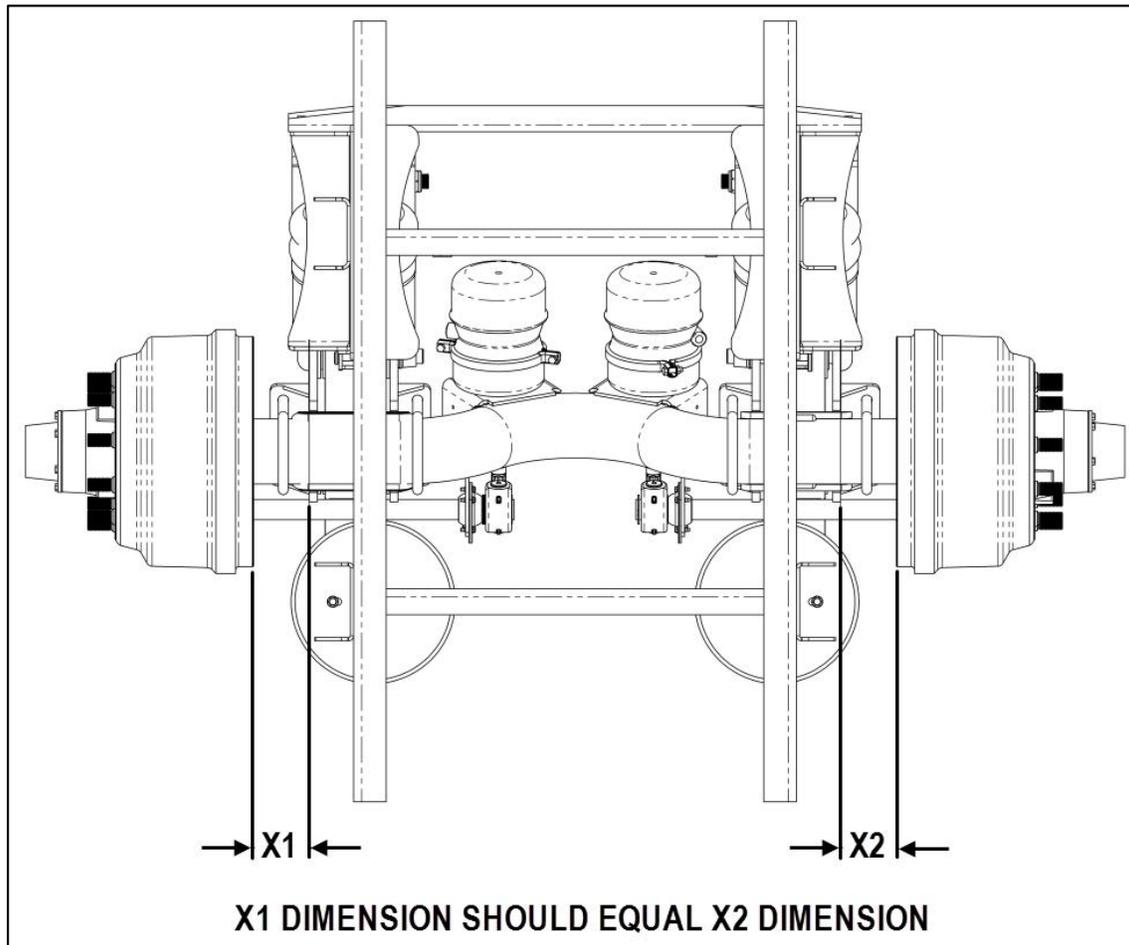

Figure 10
3. Measure the distance between the arm beam assemblies and inside drum face (See **Figure 10**) or other fixed location on the axle ends.
4.4. Adjust the axle so that dimension X1 is equal to dimension X2, and the axle is centered on the suspension and in the vehicle chassis (See **Figure 10**).